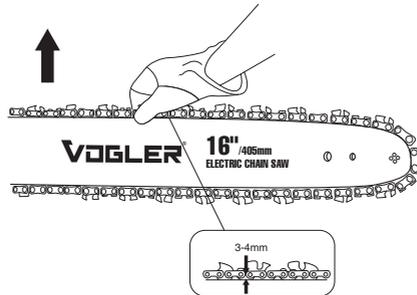

Figure 3
- After adjusting the tension screw, pull the saw chain on the guide bar with a force of about 2 kg. If the gap between the chain and the guide bar is 3 mm to 4 mm, the chain tension is correct. (See Figure 3.)